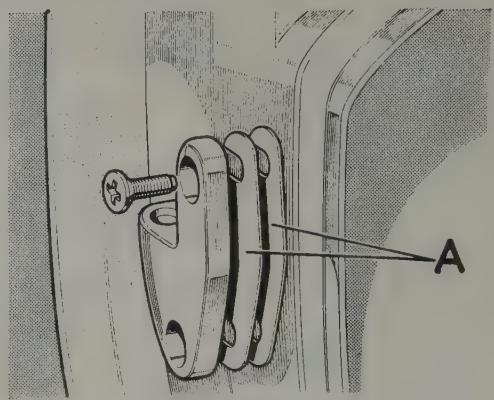

Fig. 12.3. Hinge to door shims (A)
b) Shims may be added or subtracted between the door and hinge so as to move the door either forwards or rearwards in the door aperture (Fig. 12.3).